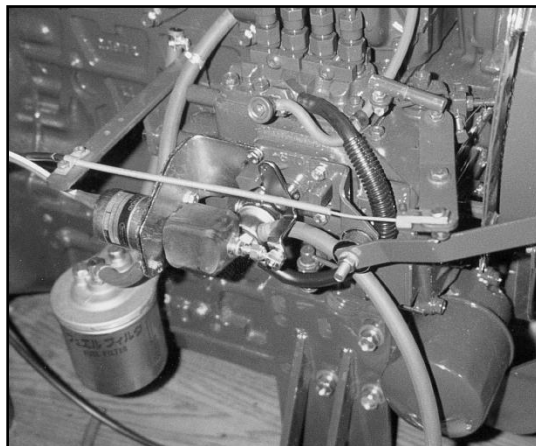

Figure 10. Engine with Radiator Support Bracket
- (a) Route fuel hoses as shown in **Figure 10** if the transfer pump with non-removable cover interferes with the bracket.